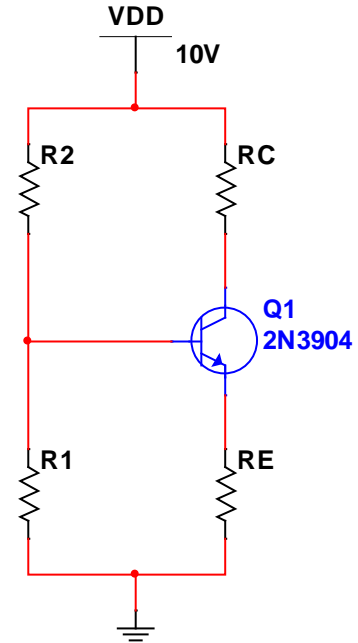

Figure 5. Bias circuit.
Figure 5 shows the basic bias network. You will choose the resistor values as you progress through the measurement part of this procedure
10. Turn the power supply OFF, insert your value of R_C into the collector branch, completing the bias circuit in figure 5.